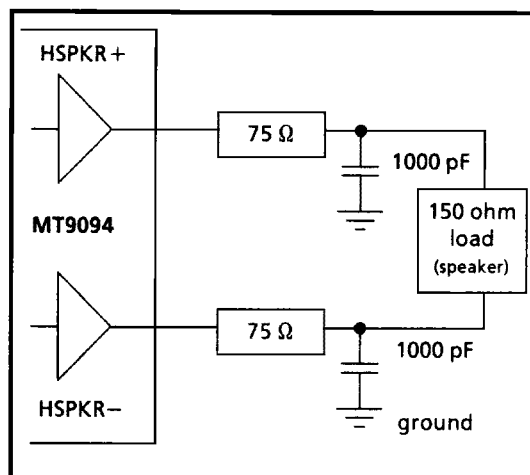

Figure 4 - Handset Speaker Driver
- ▶ The handset speaker outputs (receiver), pins HSPKR+ /HSPKR-. This internally compensated, fully differential output driver is capable of driving the load shown in Figure 4. This output is enabled/disabled by the HSSPKR EN bit residing in the Transducer Control Register (address 0Eh). The nominal handset receive path gain may be adjusted to either -12.3dB (suggested for μ -Law) or -9.7dB (suggested for A-Law). Control of this gain is provided by the RxA/ \bar{u} control bit (General Control Register, address 0Fh). This gain adjustment is in addition to the programmable gain provided by the receive filter and DSP.